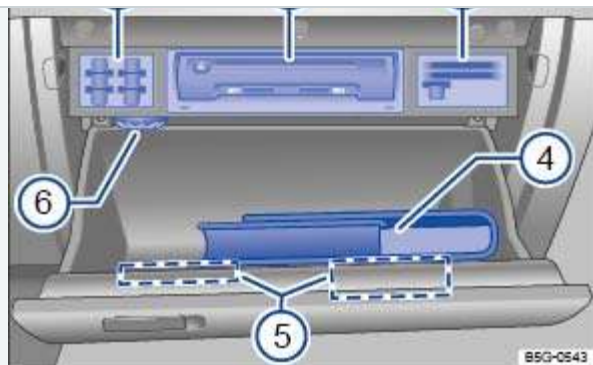

Fig. 124 Inside the glove compartment.
Key to ⇒ Fig. 124 :
Vehicles equipped with an Infotainment system may have a CD player, SD card readers, or other Infotainment System accessories ⇒ Fig. 124 in the glove compartment. See ,Chapter *Infotainment System* for further information.
compartment as shown in Fig. 124.
Depending on vehicle equipment, there may be holders for SD cards ⇒ Fig. 124, other types of cards ③, and a coin holder in the upper part of the glove compartment.
There is an air vent ⇒ Fig. 124 in the glove compartment. Cool air can be directed into the glove compartment if the air conditioner is on. Open or close the air vent by turning it.